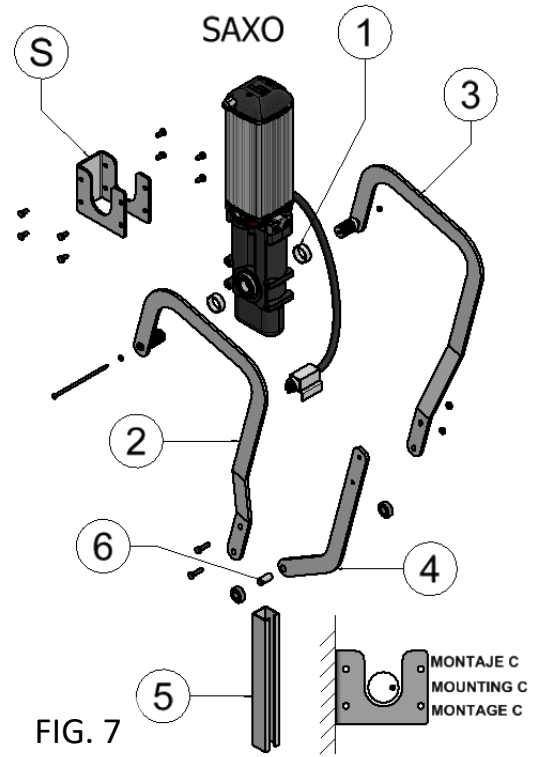

FIG. 7
Fitting Figure 7
2. The point marked on the right-hand pivot axis of the 2RU* unit shall be as shown in figure 7. Before fitting parts 1, 2, 3 and 4 in figure 7 to the unit as shown in figure 7, turn the axis of the unit by 5° in the opposite direction to the stop position, then fit parts "5" and "6" in figure 7.
3. Fix piece "G" of figure 7 at the gate, as shown in figure 5.